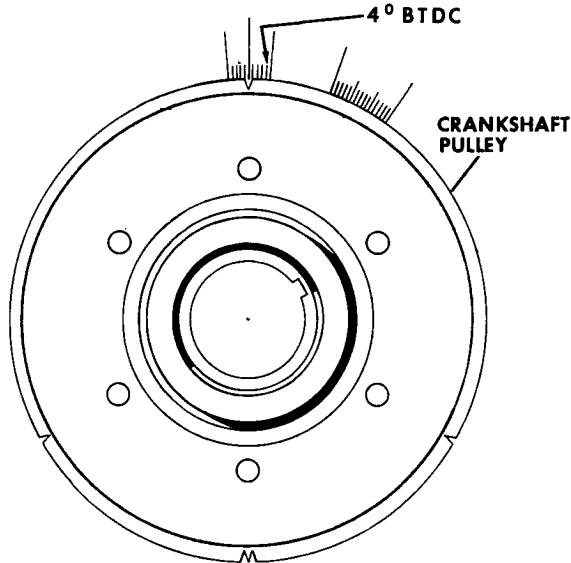

Figure 63
A. Crank the engine slowly until the crankshaft pulley is in the position shown in Figure 63. The pointer is aligned with the 4° before top dead center mark for No. 1 piston.
2. Place your thumb over the spark plug opening while the engine is being hand cranked. Outward pressure will be felt when the piston is coming up on the compression stroke. A lighter pressure is also felt on the exhaust stroke. **DO NOT CONFUSE THE TWO.** As a final check, the crankshaft pulley should be in the position shown in Figure 63.